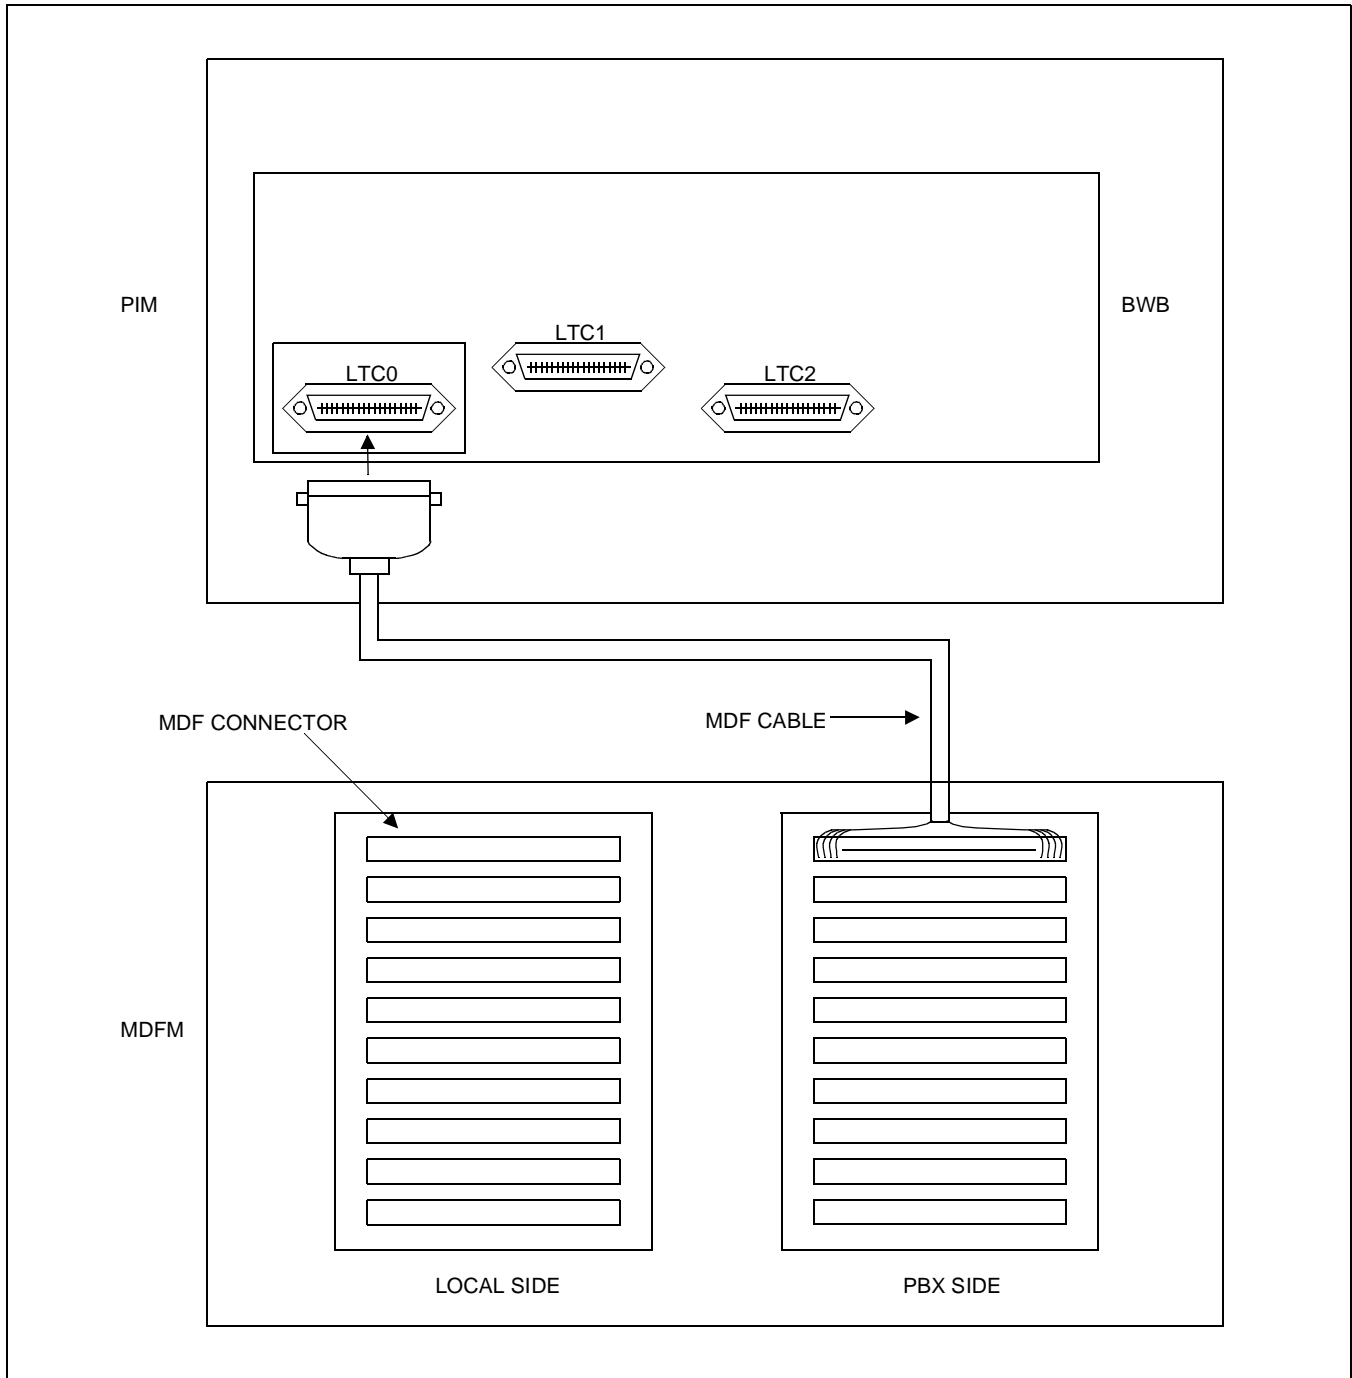

Figure 006-6 Example of MDF Cable Connection to the MDFM
(3) Connect the MDF cables to the MDF connectors in the MDFM, as shown in Figure 006-6.